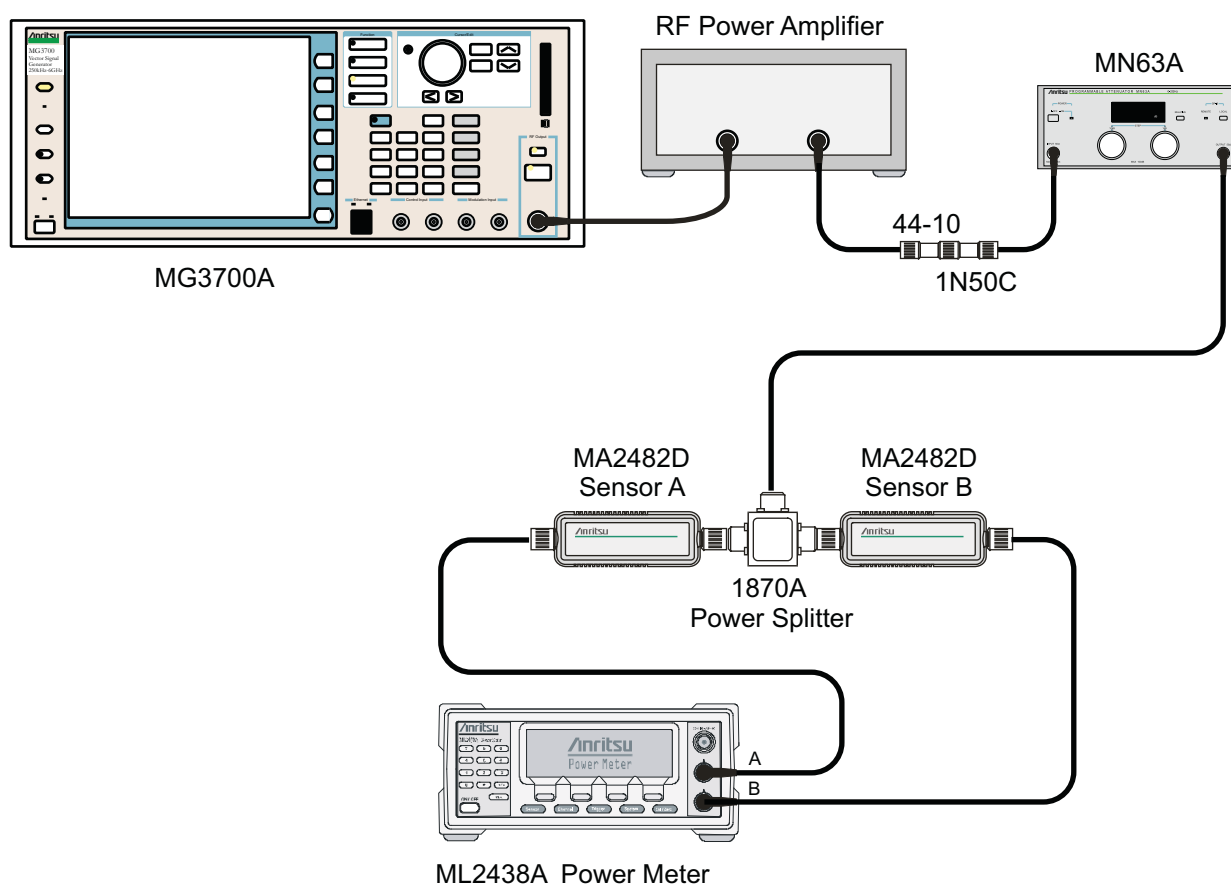

Figure 3-4. ISDB-T Level Accuracy Pre-test Setup
3. Connect the MG3700A Signal Generator, Power Amplifier with N(f)-BNC(m) adapters, RF Limiter, MN63A Programmable Attenuator, Power Divider, Power Meter, and Power Sensors as shown in Figure 3-4.
42. Turn **Off** the power amplifier, disconnect the power splitter from the MS271xE, and re-connect Sensor A to the power splitter as shown in Figure 3-4 on page 3-14.